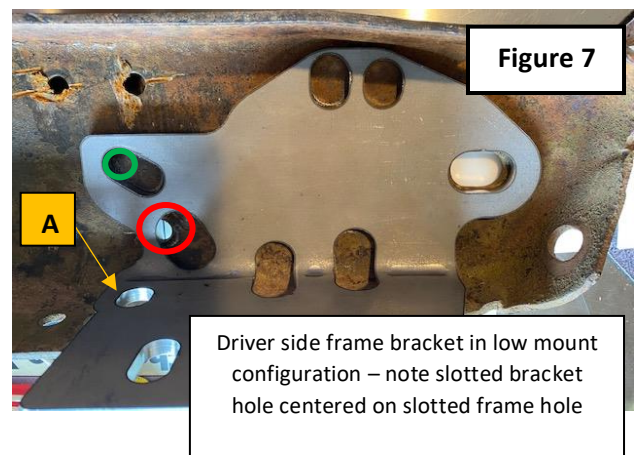

Figure 7
3. Check for interference – there will likely be interference with core support bracket rivet at bottom right (red circled area in **Figure 7**.) Remove bracket from truck and remove this rivet from truck. There will be a new hole drilled through frame that will reinforce core support mount (green circle in **Fig 7**)